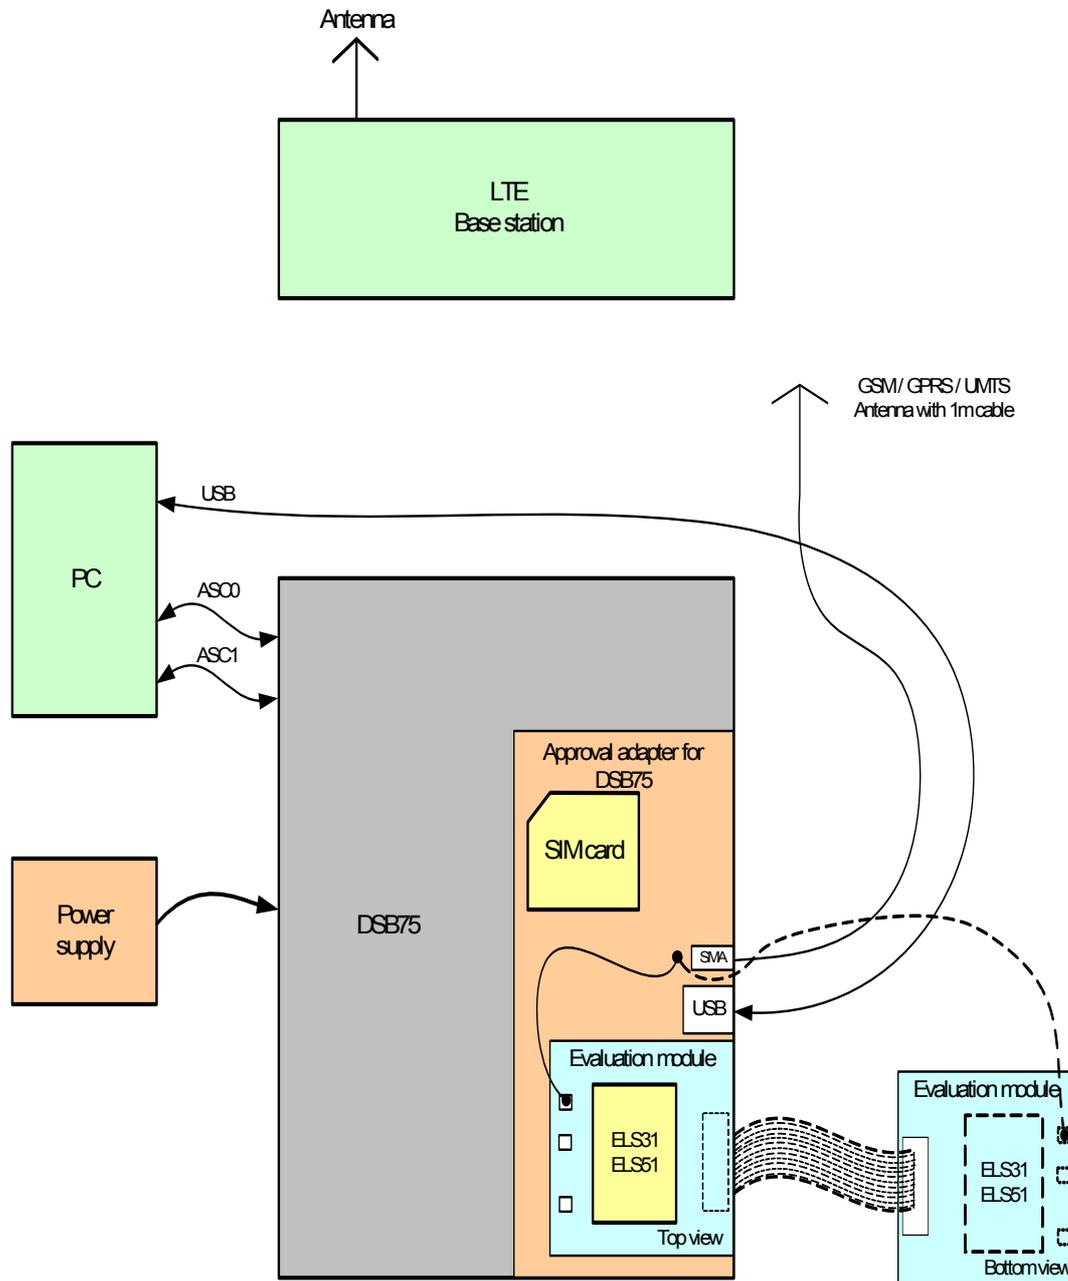

Figure 56: Reference equipment for Type Approval
1. For RF performance tests a mini-SMT/U.FL to SMA adapter with attached 6dB coaxial attenuator is chosen to connect the evaluation module directly to the GSM/UMTS test equipment instead of employing the SMA antenna connectors on the ELS31-VA/ELS51-VA-DSB75 adapter as shown in Figure 56. The following products are recommended: